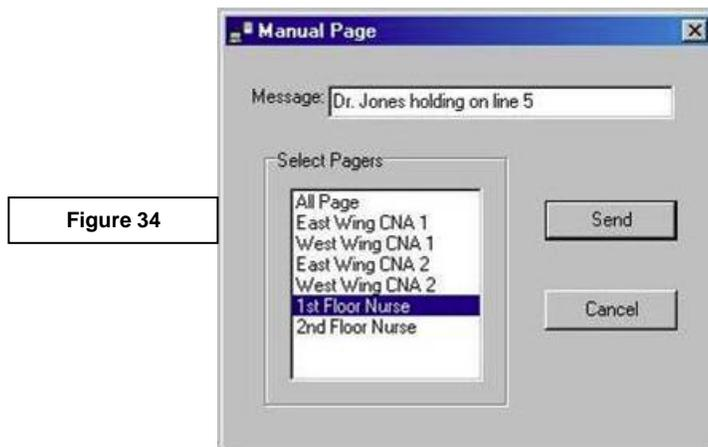

Figure 34
- Select a pager or group name and type a message into the message box, see **Figure 34**.